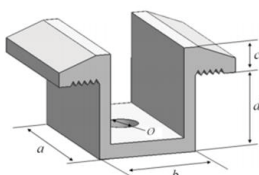
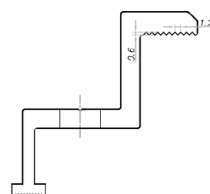

Figure 1
Figure 2 Schematic Diagram of Cross Section of Edge Clamp
① Place the PV module on two racks (not provided). Which must be made of stainless steel or be treated with corrosion protection (e. g. hot-dip galvanized treatment). Each PV module needs at least 4 clamps to fix. During installation, please do not let the clamp directly contact the glass and deform the frame, otherwise it will result in PV module damaged.
② Be sure to avoid the shading effect of the PV module due to the shadow formed by the clamp. The drain hole shall not be covered by the clamp. The clamp must have an overlap of at least 10mm with the PV module frame (the section of the clamp can be changed on the premise of ensuring the reliable installation of the PV module).
③ The upper surface of the rack in contact with the PV module frame shall be provided with a groove matched with the M8 bolt.
④ If there is no groove on the rack, a hole of appropriate diameter shall be drilled at the position mentioned above for bolt fixing.
⑤ Make sure that the installation sequence of each clamp is flat washer, spring washer and nut.
⑥ Figure 1 shows the middle mounting clamp, and Figure 2 shows the edge mounting clamp and its cross section view. The size of the middle and side pressing blocks are $a \geq 50\text{mm}$, $b \geq 26\text{mm}$, $c \geq 5\text{mm}$, $d \geq 28\text{mm}$, $\varnothing = 9\text{mm}$ and the recommended wall thickness $\geq 4\text{mm}$. When the bolts and screws are of Grade 8.8, the recommended tightening torque is 17-23Nm. Consult the installer or rack supplier for specific torque values.
⑦ In order to prevent the module from falling off from the frame after installation, it is recommended to select the clamp with patterned groove structures for edge and intermediate clamp with contact surfaces with frame A. The recommended number of groove structures is about 9, the distance between adjacent grooves is recommended to be about 1.2mm, and the groove depth is recommended to be about 0.6mm, as shown in Figure 2.